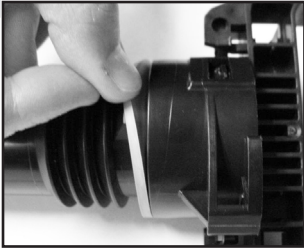

Figure 1
1. Inspect gasket. If worn or damaged, remove and replace. (See Figure 1).